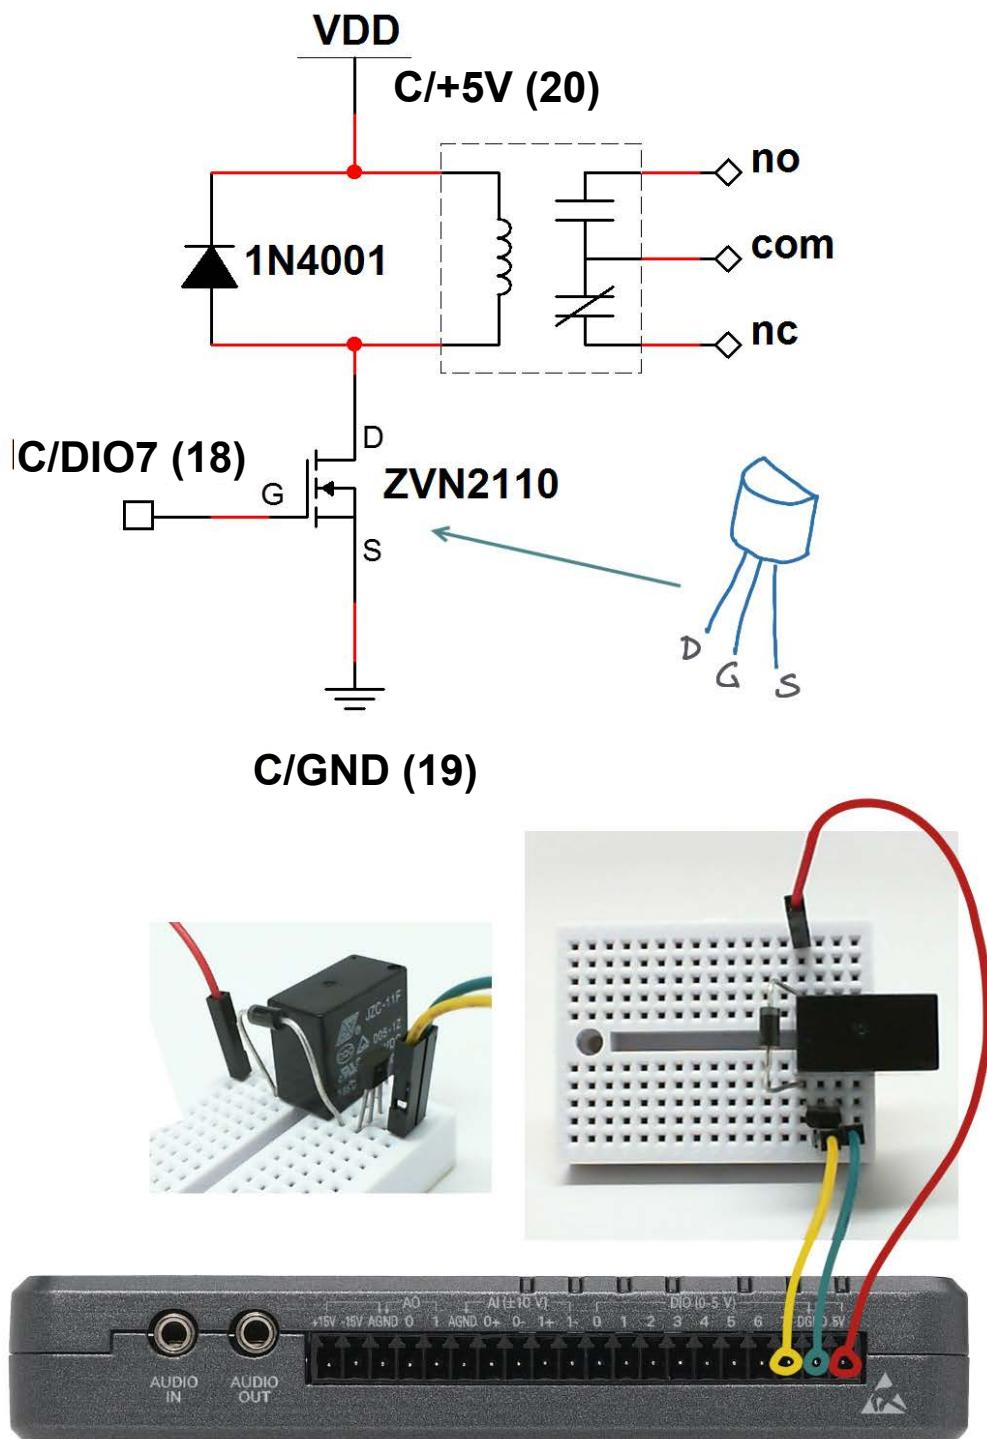

Figure 6.3: Relay interface circuit suitable for internal pull-down resistors on NI myRIO MSP Connector C.
3. Build and test the interface circuit for a relay controlled from the MSP connector; see Figure 6.3 on the facing page. Select C/DIO7 (pin 18) as the relay control line on the myRIO DIO channel front-panel control. Power the circuit from the MSP connector with C/+5V (pin 20) and the digital ground C/DGND (pin 19).